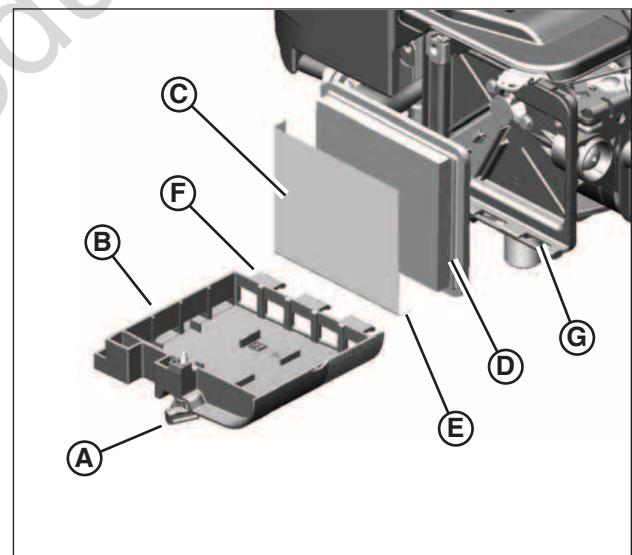

Figure 16: Air filter and pre-cleaner
1. Loosen the fastener (**A**, Figure 16) that holds the cover (**B**).